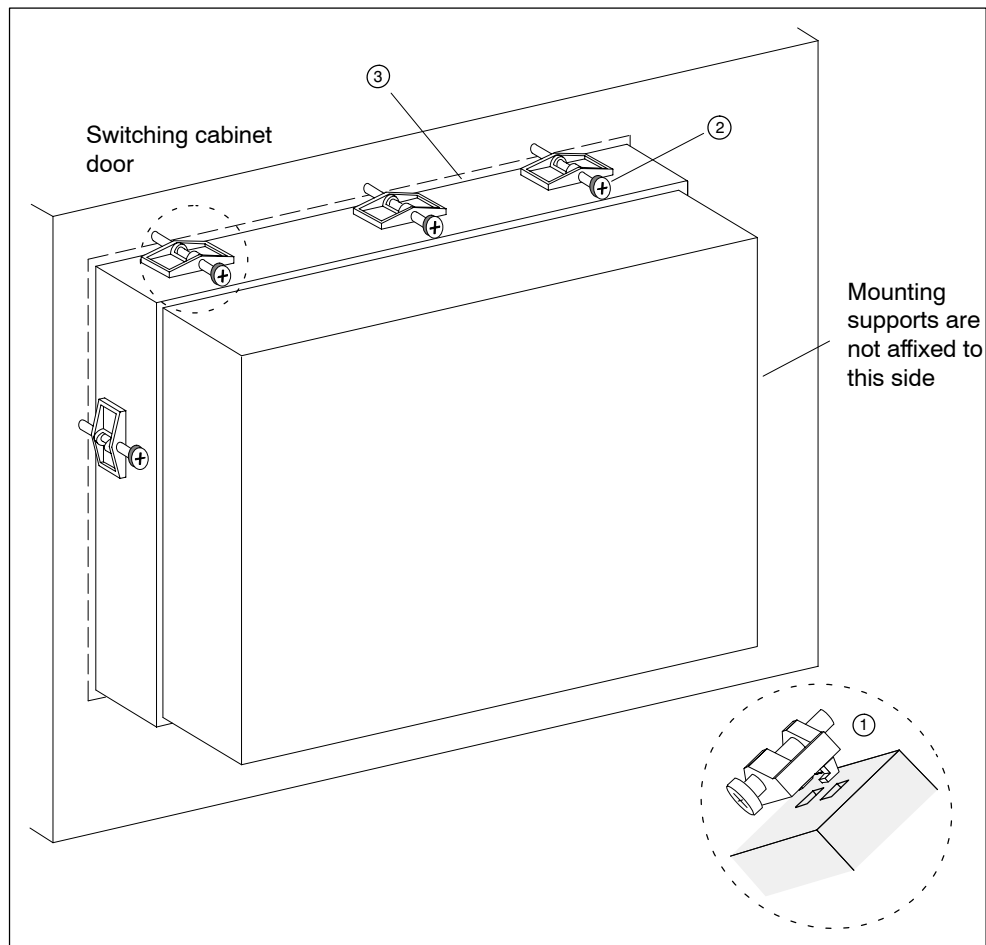

Figure 2-2 Mechanically Mounting the C7-613
3	Guide the mounting hooks of seven of the provided mounting supports ① into the provided recesses in the C7-613 housing. See Figure 2-2. Mounting supports can not be affixed on the narrow side near the X11 connector (on the right side in Figure 2-2).